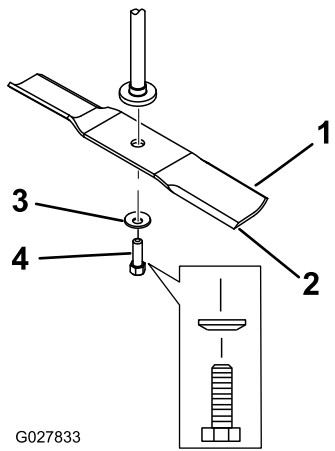

Figure 48
Hold the blade end using a rag or thickly-padded glove. Remove the blade bolt, curved washer, and blade from the spindle shaft (Figure 48).
- Install the blade onto the spindle shaft (Figure 48).
- Install the curved washer (cupped side toward the blade) and the blade bolt (Figure 48).